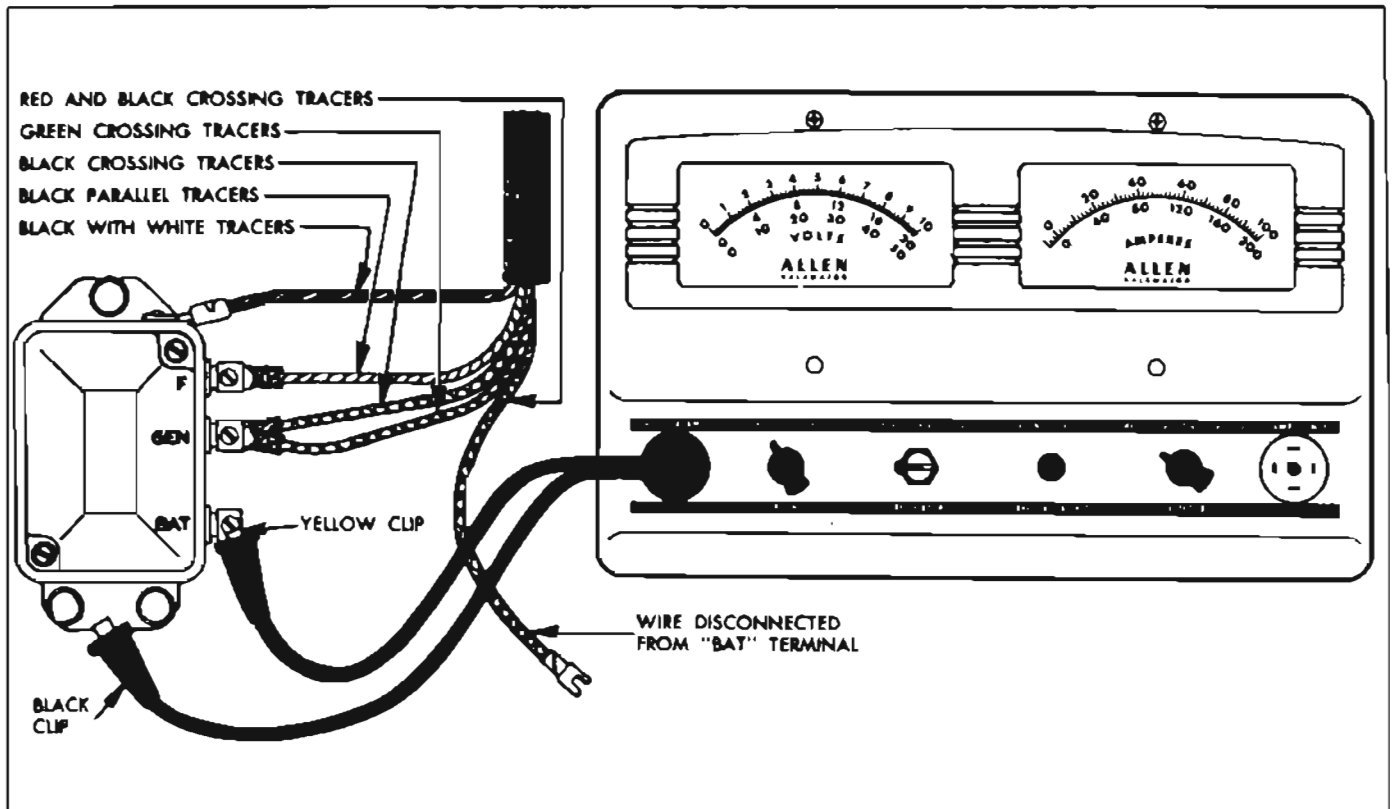

Figure 10-22—Voltage and Current Regulator Test Connections—Allen Volt-Ampere Tester
12. Turn "SELECTOR" switch to "REG" position, leave "GROUND" switch at "NEG" position, and turn "REGULATOR" switch to "6V" position. Connect YELLOW clip of volt-meter lead to regulator terminal marked "BAT" and leave BLACK clip connected to ground on base plate of regulator. See figure 10-22.